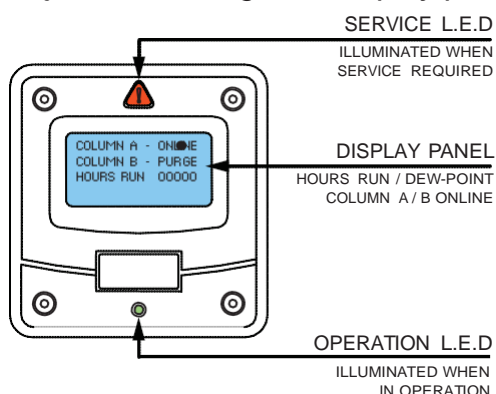

Figure 1.
- The set levels for the ES and dewpoint alarm are adjustable and can be accessed by carefully removing the front bezel to expose PLC and adjustment buttons. (see Figure1.)